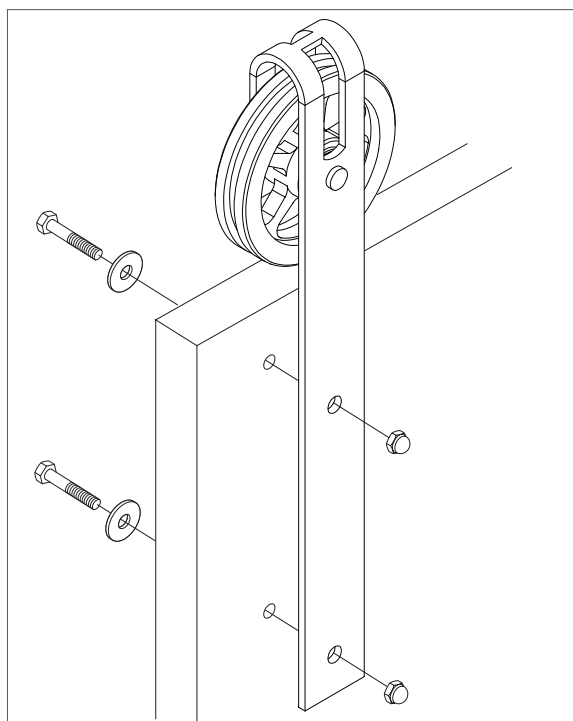

Figure 6
7. Install the hangers to the front of the door using hex bolts, washers, and acorn nuts (provided). (Figure 6).